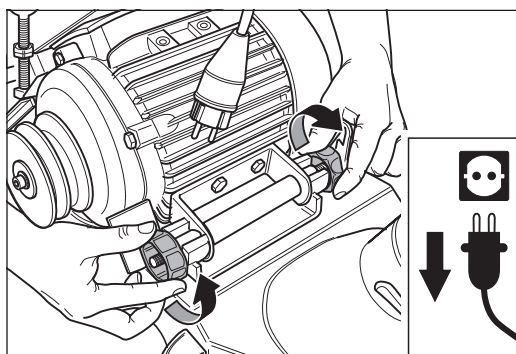
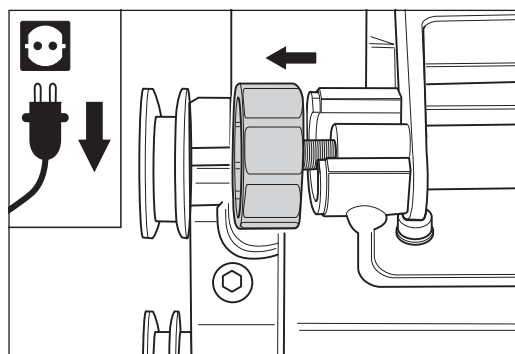

Fig. 29 Loosen the two motor nuts ...
Fig. 30 ... until the two nuts used to fit into the motor bearing bracket are exposed.
- 8 Release the motor nuts (Fig. 29). The motor nut must only be backed out from the fitting between the motor nut and motor bearing bracket, and not completely removed (Fig. 30).